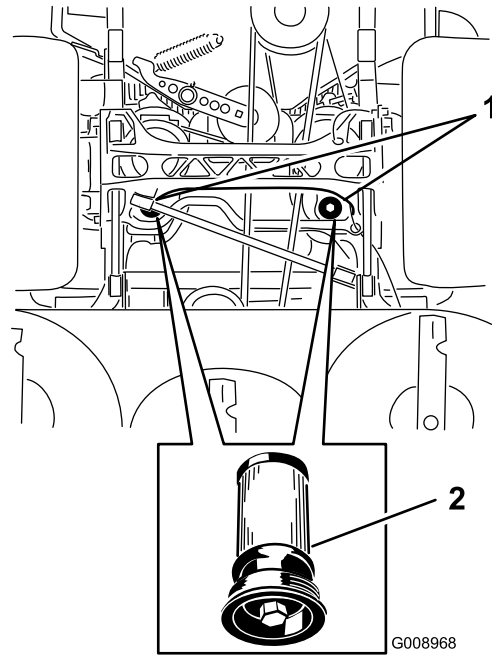

Figure 84
5. Place a drain pan under the filter, remove the old filter, and wipe the surface clean (Figure 84).
6. Apply a thin coat of hydraulic fluid to the rubber gasket on the replacement filter (Figure 84).